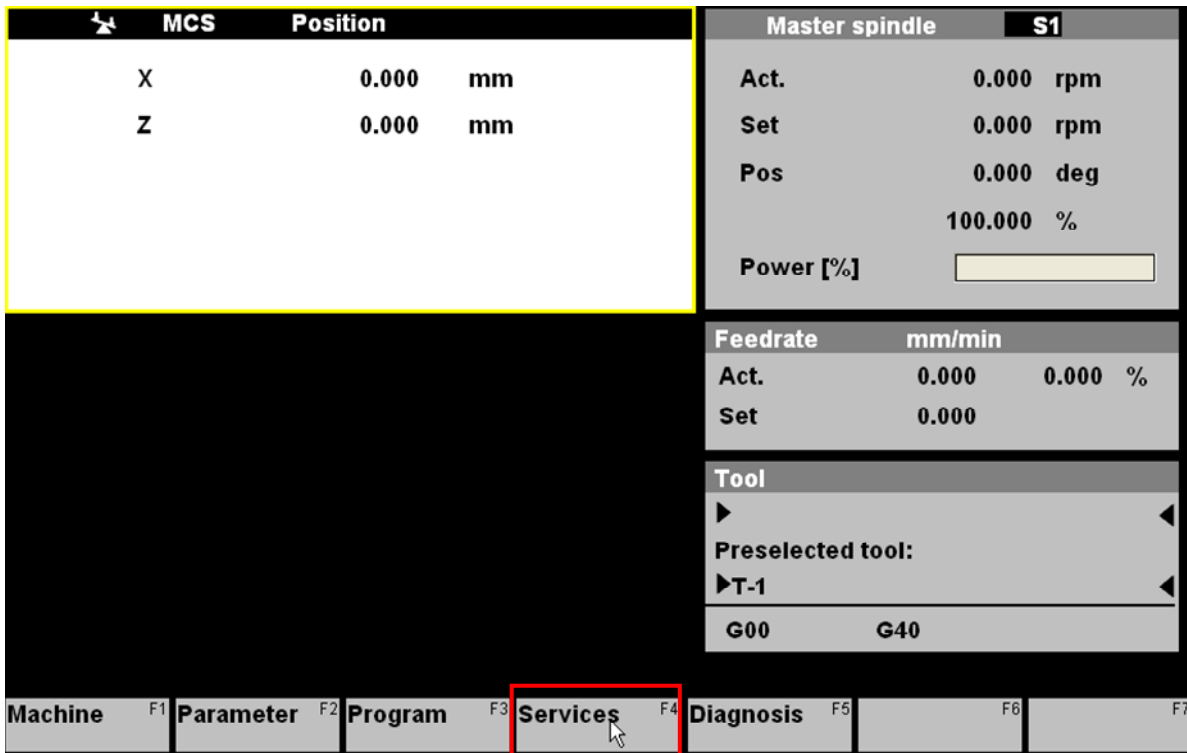

Fig.6.16: Shows the service button.
19. Click on **"Services"** as shown in fig.6.16